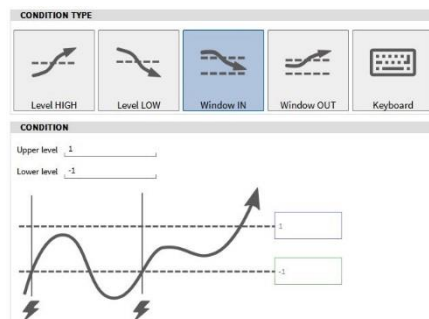

Figure 7-5: Trigger on *Window IN*
- Window IN: Activate Event if selected signal is within a certain range. The user can define an upper and a lower limit (see Figure 7-5).